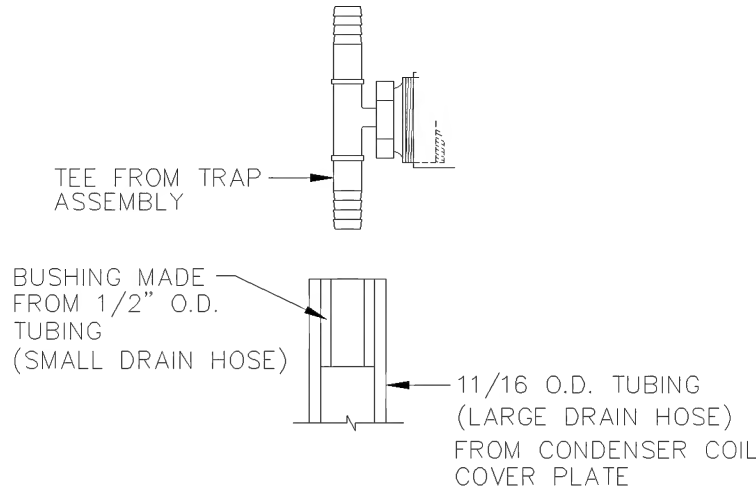

Figure 15
3. Attach the large drain hose (11/16" diameter clear tubing) from the front (CHB) or bottom (CDB) of the condensing coil cover plate to one side of the PVC tee provided in the trap assembly. A small bushing will have to be made from a 3/4" long piece of small drain hose (1/2" o.d. clear tubing) to install the large drain hose (11/16" o.d. tubing) onto the tee of the trap (see Figure 15). Secure the large drain hose (11/16" o.d. tubing) with the silver clamp provided in the parts package. Be careful to route the tubing through the proper hole in the furnace casing using the Heyco bushing provided. While making all connections with the clear tubing, be careful to route the tubing in a manner to prevent kinking or abrasion of the tubing.